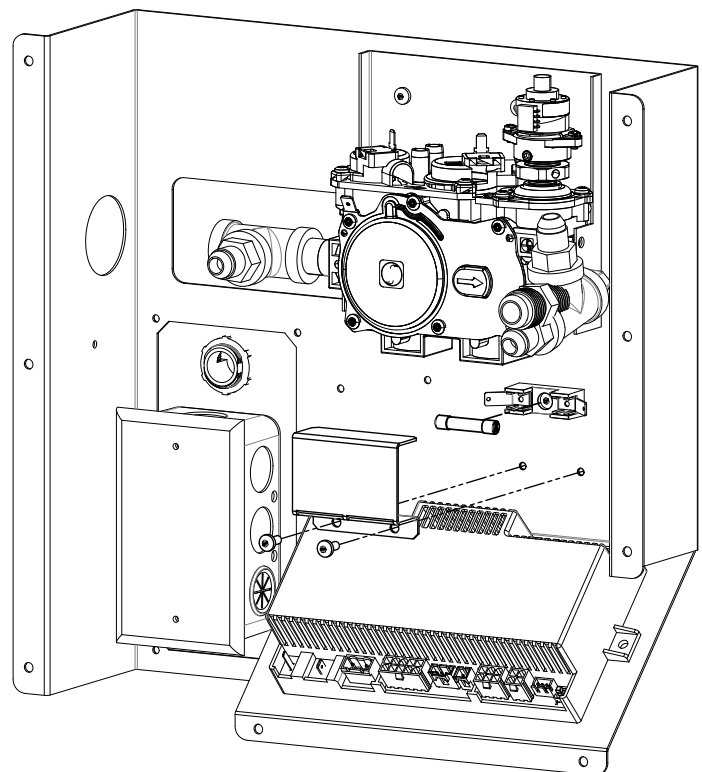

Figure 20: Fuse Removal
3. Remove the fuse cover by removing the two T-20 screws (see Figure 20).